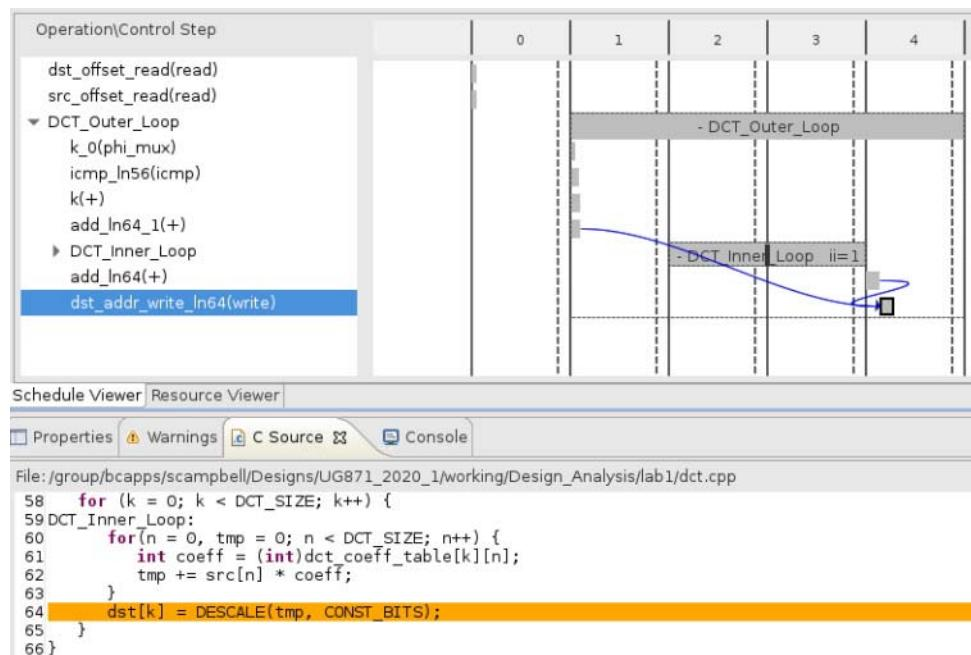

Figure 6-18: DCT Solution2 dct_1d Schedule Viewer
10. In the Performance Profile, click loops `DCT_Outer_Loop` and `DCT_Inner_Loop` to view the loop hierarchy (Figure 6-18).
Figure 6-18 shows that this loop was not flattened because additional operations outside of DCT_Inner_Loop, at the level of DCT_Outer_Loop, prevented loop flattening. One of the operations that prevented loop flattening is highlighted in Figure 6-18, below.